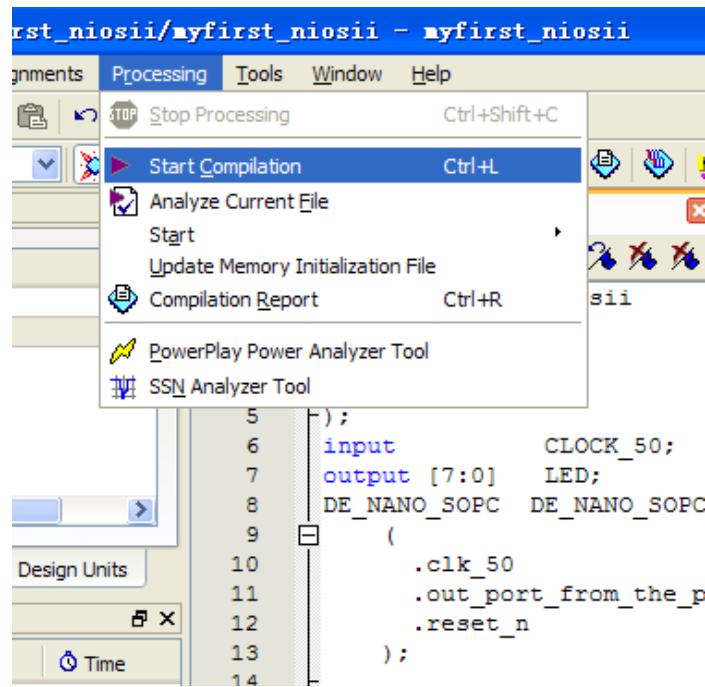
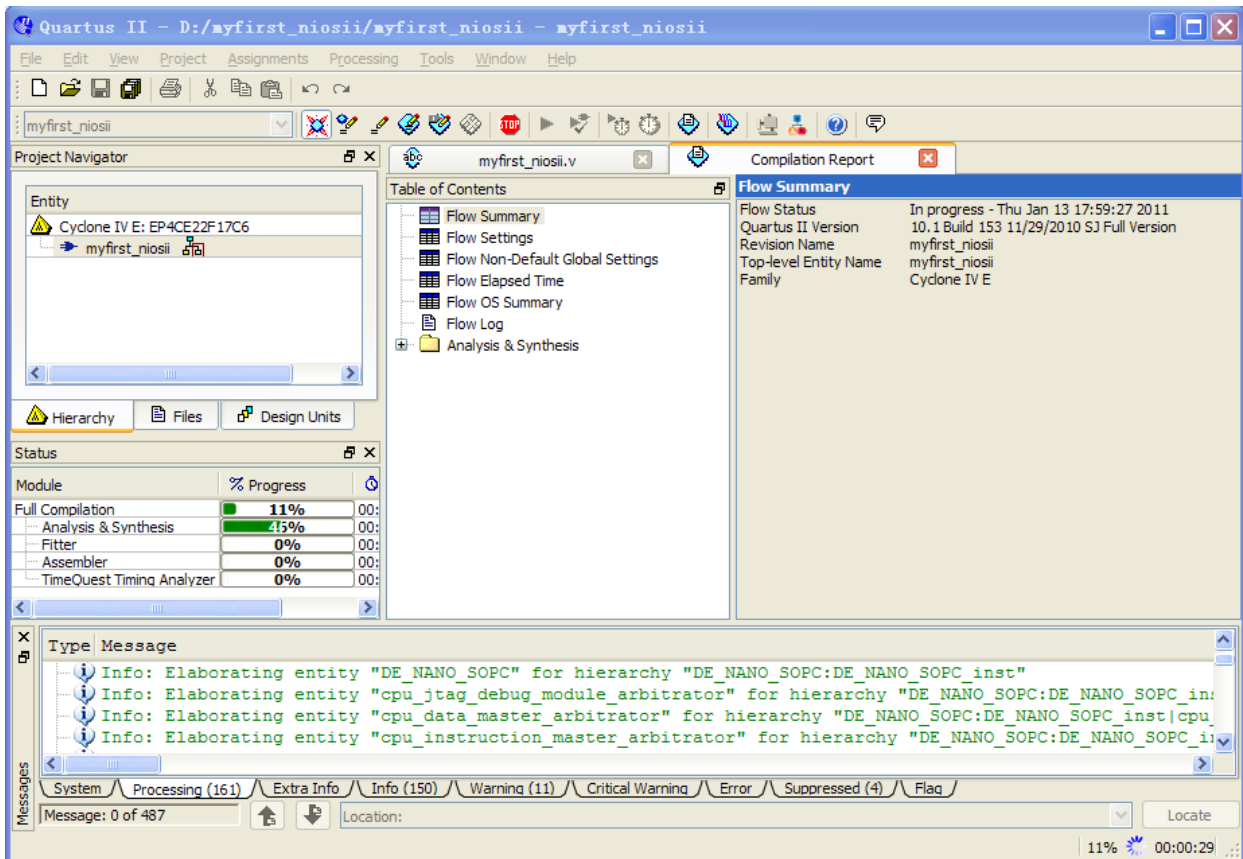

Figure 7-47 Start Compilation
Figure 7-48 Execute Compile
36. Choose **Processing** > **Start Compilation** as shown in **Figure 7-47**. **Figure 7-48** shows the compilation process.